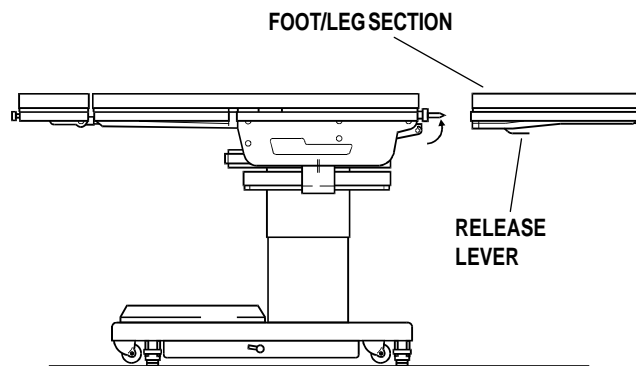

Figure 2-16. Leg Section Release Levers
a. To remove the leg section, simultaneously depress both release levers and pull the leg section out. See figure 2-16. Press the LEG-DOWN button on the pendant control to position the leg section attachment pins down and out of the way.